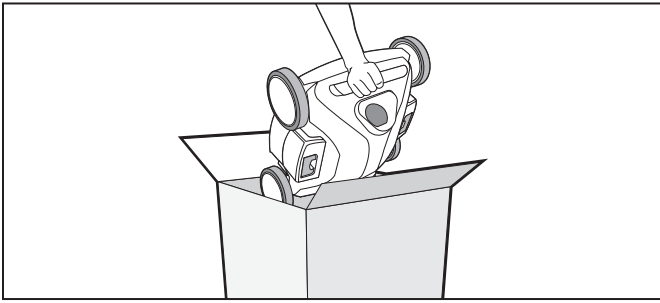

Figure 18. Long Term Storage for Extended Period
6. For extended periods, such as winter months, store the cleaner in a box to keep motors, plastics and seals protected (make sure the cleaner is dry before storing) (Figure 18).